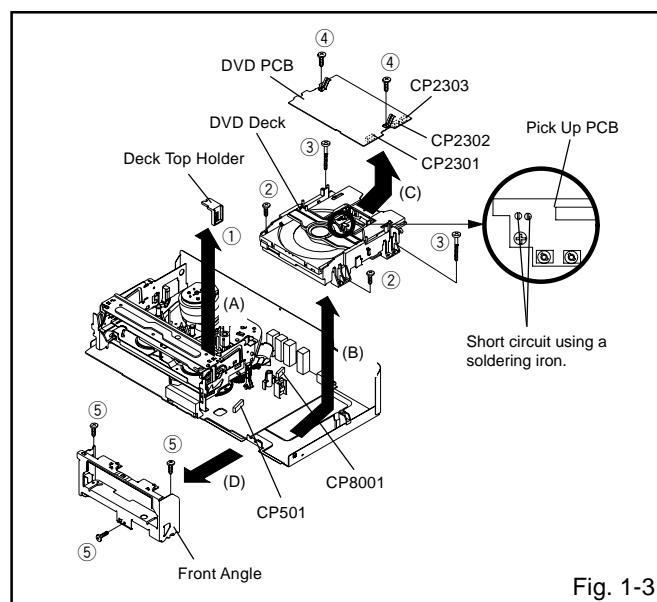

Fig. 1-3
### 1-3: DVD DECK/DVD PCB (Refer to Fig. 1-3)
1. Short circuit the position shown in Fig. 1-3 using a soldering iron. If you remove the DVD Deck with no soldering, the Laser may be damaged.
2. Unlock the support ① and remove the Deck Top Holder in the direction of arrow (A).
3. Remove the 2 screws ②.
4. Remove the 2 screws ③.
6. Remove the DVD Deck in the direction of arrow (B).
8. Remove the 2 screws ④.
9. Remove the DVD PCB in the direction of arrow (C).
10. Remove the 3 screws ⑤.
11. Remove the Front Angle in the direction of arrow (D).